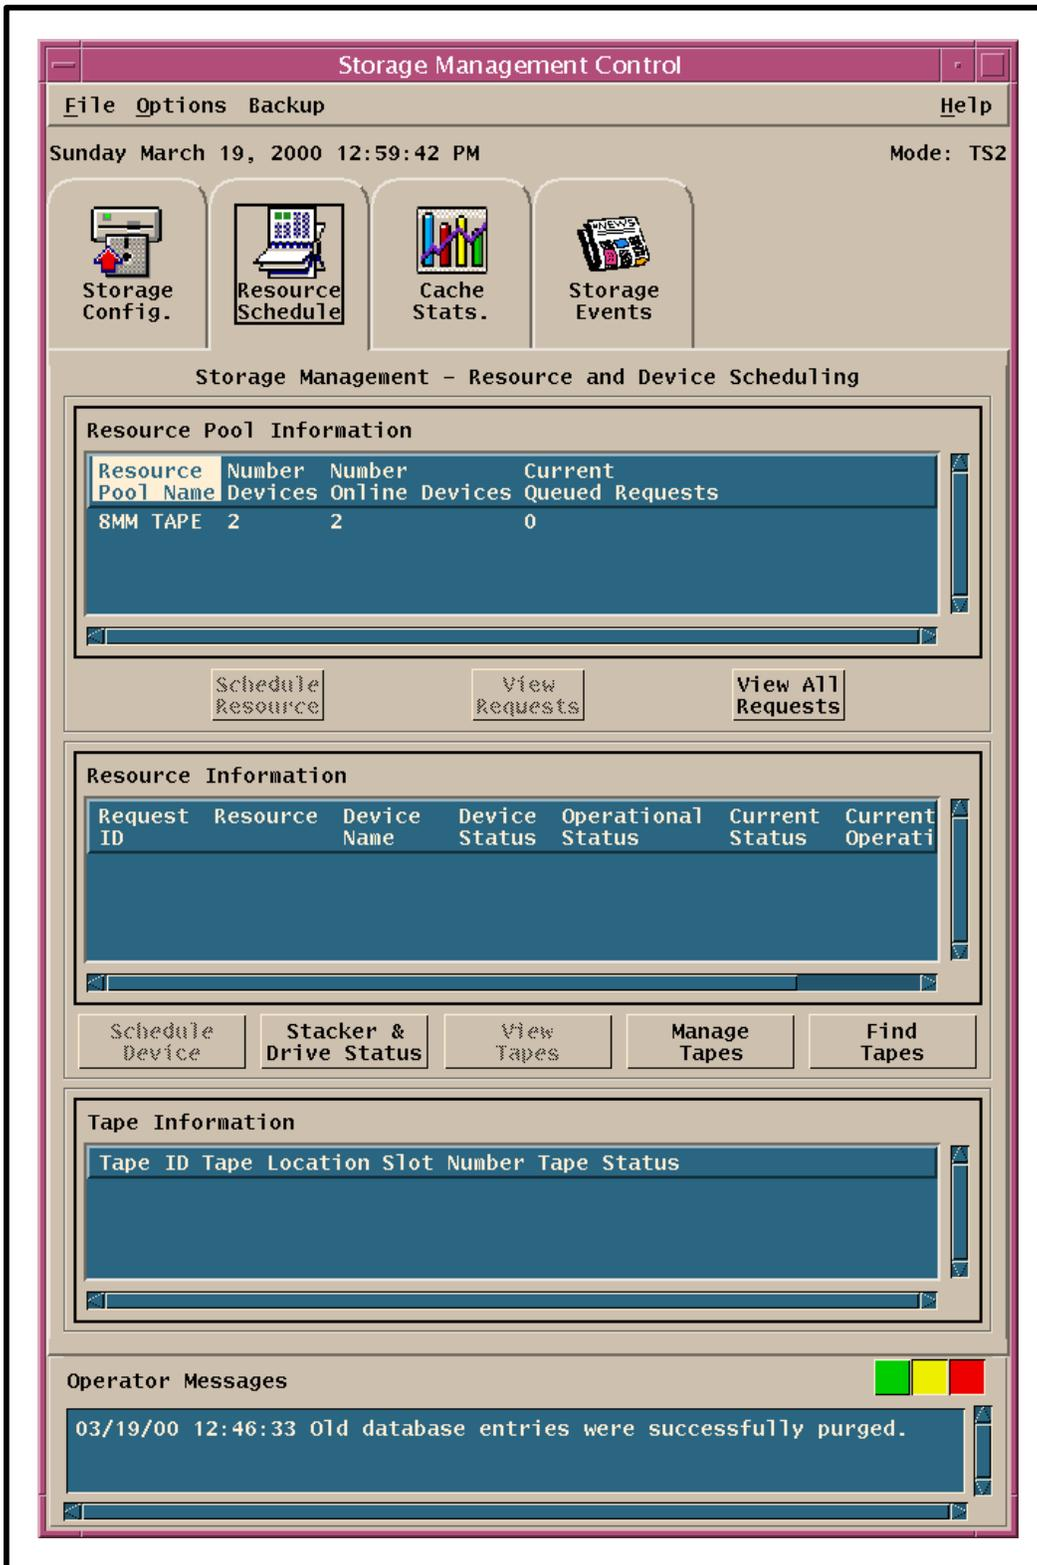

Figure 12. Resource Schedule Tab (Storage Management Control GUI)
- The **Storage Management Control** GUI **Resource Schedule** tab (Figure 12) is displayed.